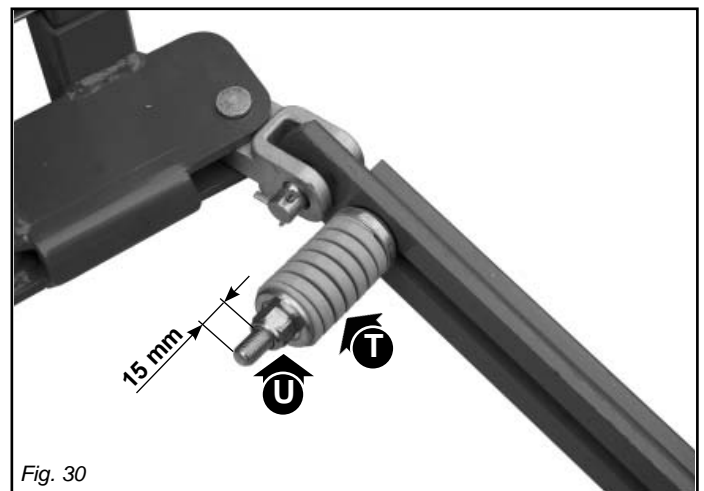

Fig. 30
- The mower is fitted with a safety device for protection against obstacles. If this device is tripped by impact with an obstacle, stop the tractor without raising the cutting arm. Check that the universal joint has not become separated, if so, reassemble it. **Position the safety tie rod parallel to the ground, and reverse the tractor until the safety tie rod hooks up again.** If the tie rod releases easily, adjust spring (T, Fig. 30) using nut (U, Fig. 30) which should be tightened half turn at a time.
A spring compression other than that indicated in Figure 30 (15 mm) can make the safety device ineffective.